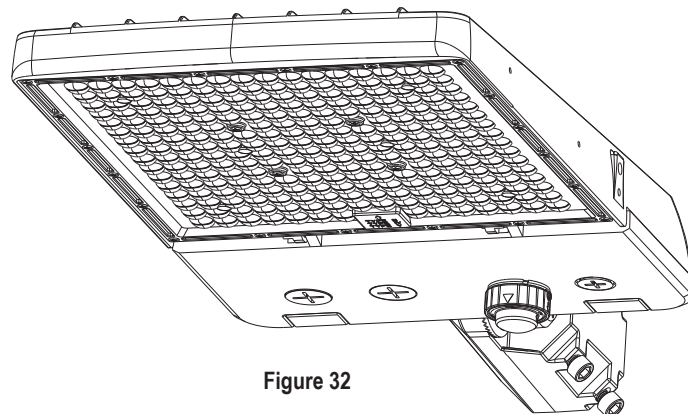

Figure 32
4. Rotate the outer ring of the node counterclockwise until the arrows align. (see Fig. 32)